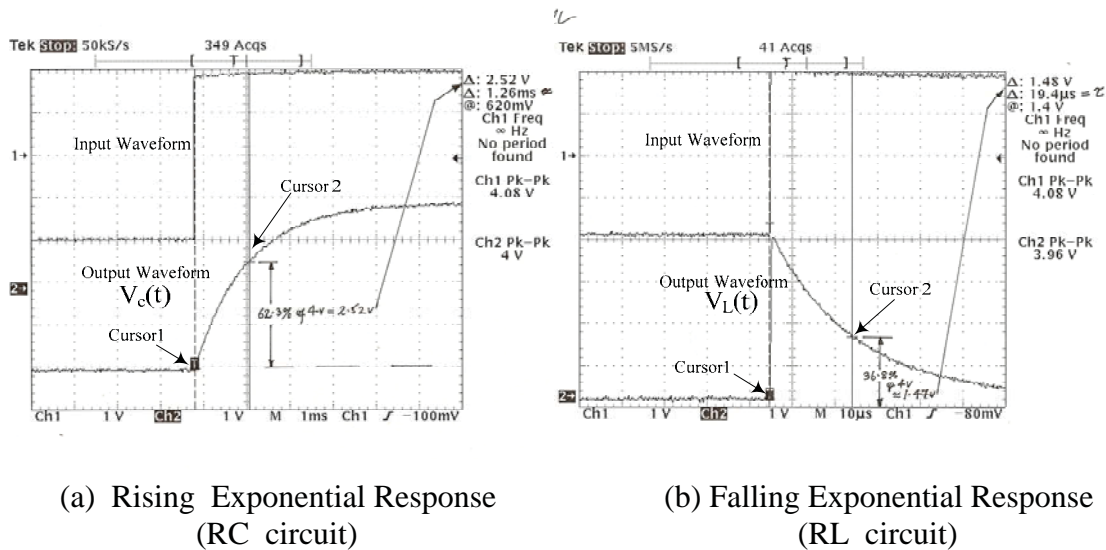

Figure 4.9
Next, as outlined in the tutorial section, adjust the square-wave frequency on the FG to an appropriate value ( $\sim 1/40\tau$ ) and the time/div switch on the DSO, so that a 'step response' display is seen. [ eg: If the 'theoretical'  $\tau$  is 95  $\mu\text{s}$ , then try a square-wave frequency of  $1/40(95\mu)$  or  $\sim 260$  Hz. Note that the DSO will read the frequency of the square-wave only when a few cycles are displayed.]. Adjust the Ch2 sensitivity to obtain a good-sized display for cursor measurement. Position the 'paired' cursors **on the Ch2 waveform** to measure  $\tau$ : If the H-bar cursors are positioned so that they are at 'zero' & at  $\sim 63.2\%$  of the 'final' value of the 'step', then V-bar cursor readout will correspond to  $\tau$ . A typical display is shown in Figure 4.9(a). Obtain a printout for the report. Compare the measured value of  $\tau$  with the theoretical value and comment on any differences between the two. Simulate the circuit (in the report) using  $V_c$  as output, remembering to use a 4 volt pulsed voltage source for  $V_s$  and to perform a 'transient response' analysis. {See Appendix-E}. Compare the result with the experimental result.
- Make the connections shown in Figure 4.8 (b) on the breadboard. The effective R used can either be a single resistor or a resistor network designed to obtain some specific value. Use available R values to obtain a theoretical time constant in the range of 20  $\mu$ s to 200  $\mu$ s [For example  $(0.02)/(1020) = 19.6 \mu$ s or  $(0.02)/(110) = 182 \mu$ s]. Repeat the procedure of Step 2 to measure the time-constant of the ‘falling’ response. If the H-bar cursors are positioned so that they are at the ‘initial’ value &  $\sim 36.8\%$  of the ‘initial’ value of the ‘step’, then V-bar cursor readout will correspond to  $\tau$ . A typical display is shown in Figure 4.9 (b). Obtain a printout for the report. Compare the measured value of  $\tau$  with the theoretical value and comment on any differences between the two. **Simulate** the circuit (in the report) using  $V_L$  as output, remembering to use a 4 volt pulsed voltage source for  $V_s$  and to perform a ‘transient response’ analysis. {See Appendix-E} Compare the result with the experimental result.